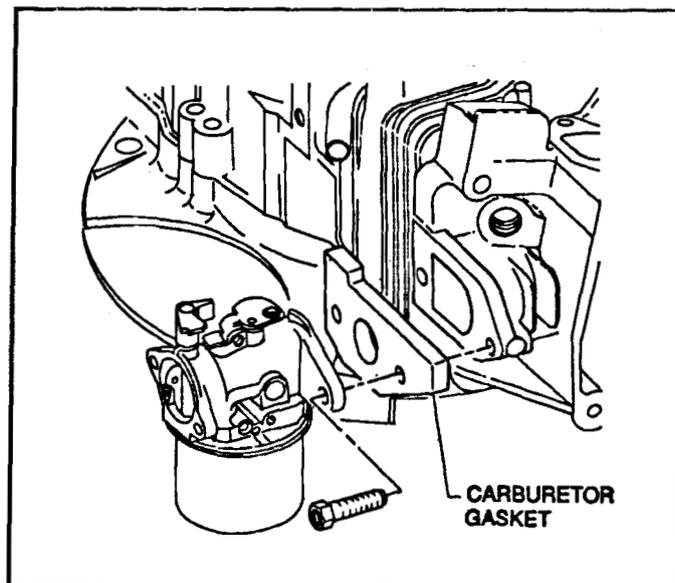

Figure 16
4. Remove the two 3/8" hex, washer head screws that retain the carburetor, the insulator gasket, and engine block. See Figure 16.